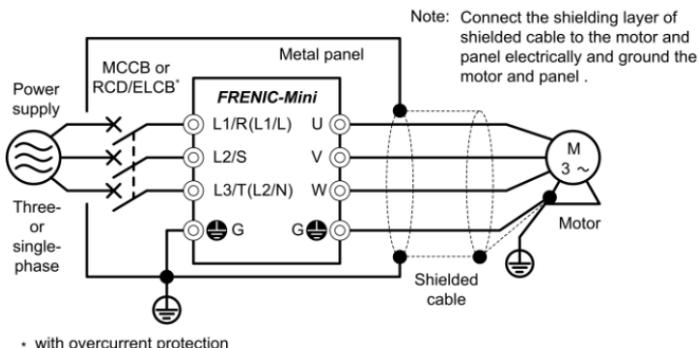

Figure 11.3 Installing the Inverter into a Metal Panel
- If noise from the inverter exceeds the permissible level, enclose the inverter and its peripherals within a metal panel as shown in Figure 11.3.